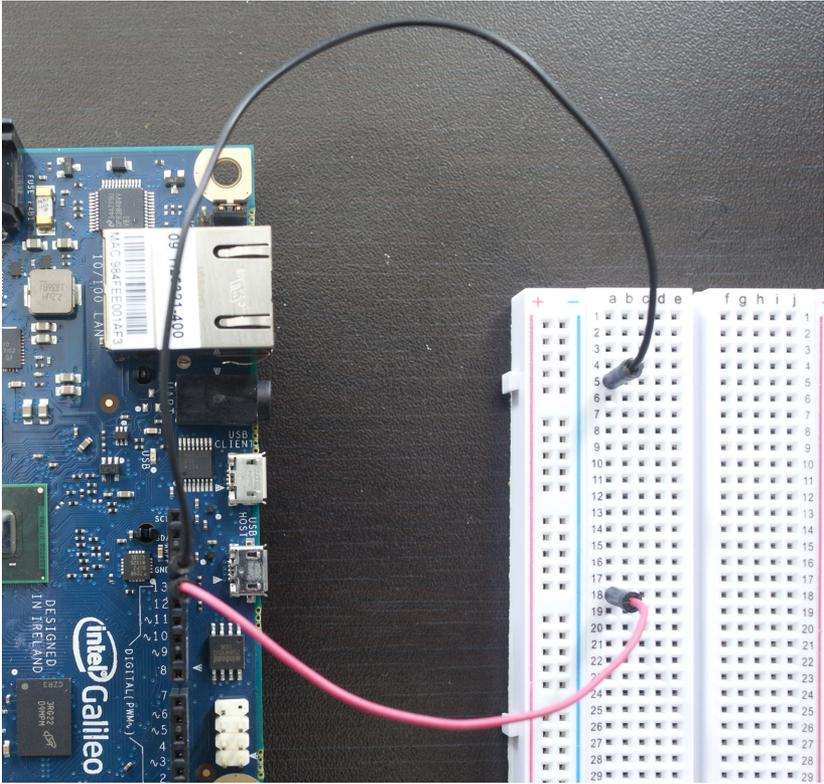

Figure 3-3. Connecting ground and digital pin 13 to a breadboard with jumper wires
2. Using another jumper wire, connect the Galileo pin labeled 13 to a different row on the breadboard as shown in Figure 3-3.